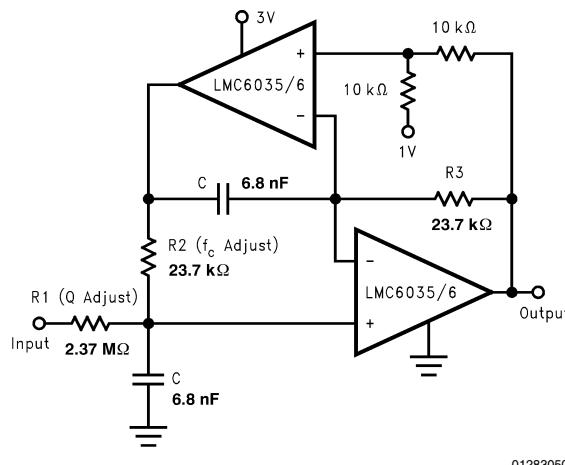

FIGURE 7. 2 Pole, 1kHz Active, Bandpass Filter
The dual amplifier bandpass (DABP) filter features the ability to independently adjust f_c and Q. In most other bandpass topologies, the f_c and Q adjustments interact with each other. The DABP filter also offers both low sensitivity to component values and high Qs. The following application of *Figure 7*, provides a 1kHz center frequency and a Q of 100.
1. First choose a center frequency (f_c). *Figure 7* represents component values that were obtained from the following computation for a center frequency of 1kHz. $R2 = R3 = 1/(2\pi f_c C)$ Given: $f_c = 1\text{kHz}$ and $C_{(\text{chosen})} = 6.8\text{nF}$ $R2 = R3 = 1/(2\pi \times 3\text{kHz} \times 6.8\text{nF}) = 23.4\text{k}\Omega$ (Chosen standard value is **23.7kΩ**)